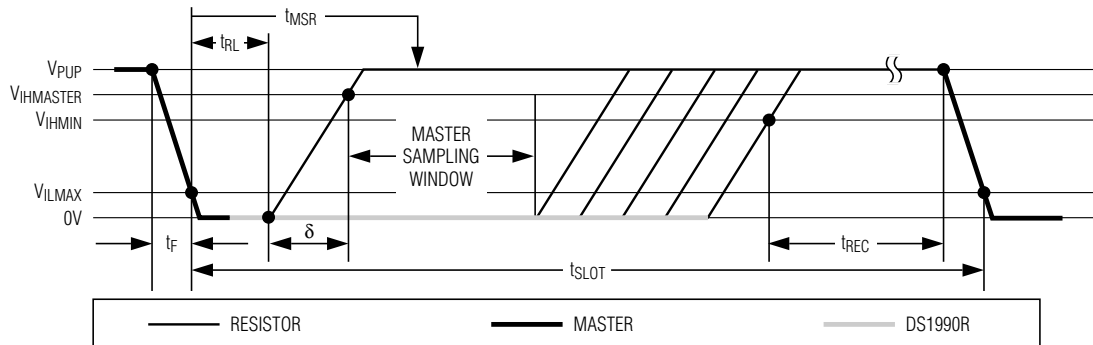

Figure 7. Read/Write Timing Diagram
- Note 14:**  $\epsilon$  in Figure 7 represents the time required for the pullup circuitry to pull the voltage on IO up from  $V_{IL}$  to  $V_{IH}$ . The actual maximum duration for the master to pull the line low is  $t_{W1LMAX} + t_F - \epsilon$  and  $t_{W0LMAX} + t_F - \epsilon$ , respectively.
- Note 15:**  $\delta$  in Figure 7 represents the time required for the pullup circuitry to pull the voltage on IO up from  $V_{IL}$  to the input-high threshold of the bus master. The actual maximum duration for the master to pull the line low is  $t_{RLMAX} + t_F$ .
Data communication with the DS1990R takes place in time slots that carry a single bit each. Write time slots transport data from bus master to slave. Read time slots transfer data from slave to master. The definitions of the write and read time slots are illustrated in Figure 7.